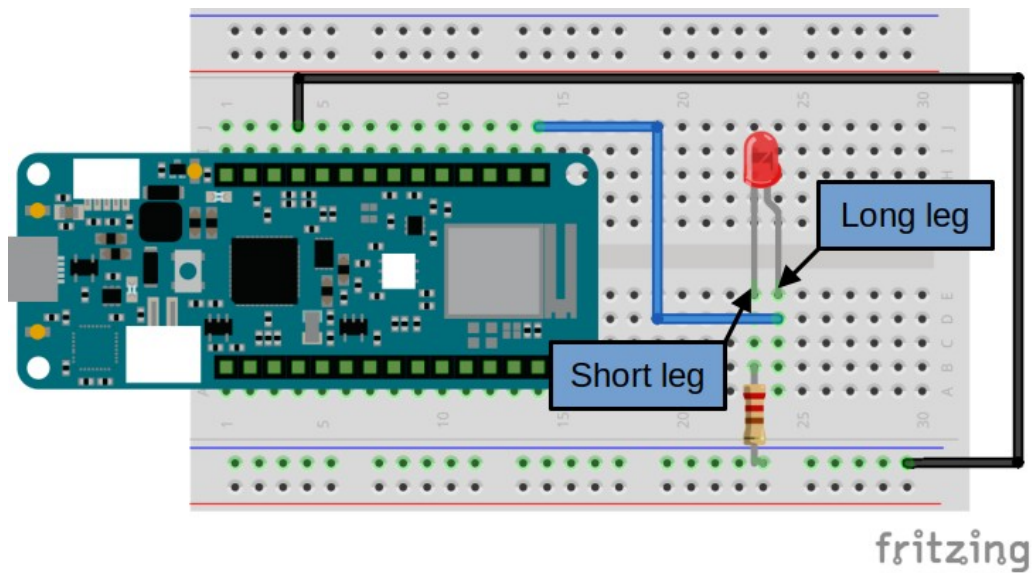

Figure 4 – Basic “blink” circuit
8. Insert the LED (as in Figure 4).